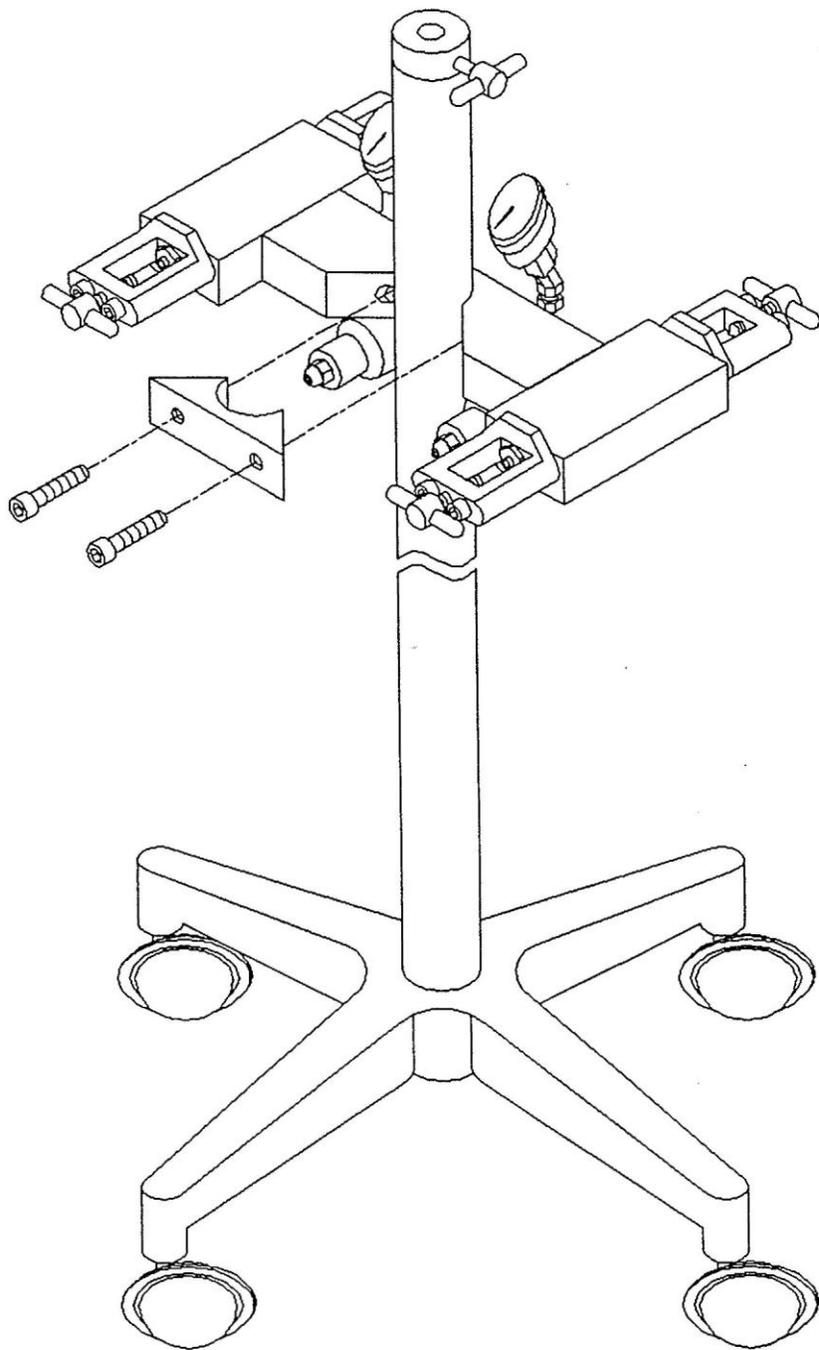

Figure 16
- H. Pass the socket head cap screws through the clearance holes and thread into the tapped holes and tighten them securely. (See fig 16).